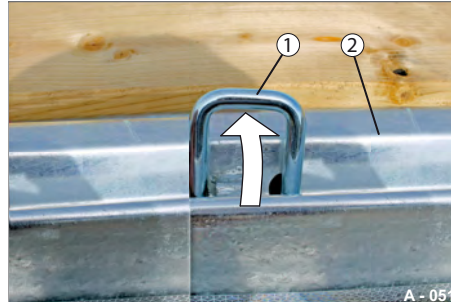

Fig. 55 Lashing shackle pressed out
- ▶ Press out the lashing shackle (Fig. 55/1) from below upwards.